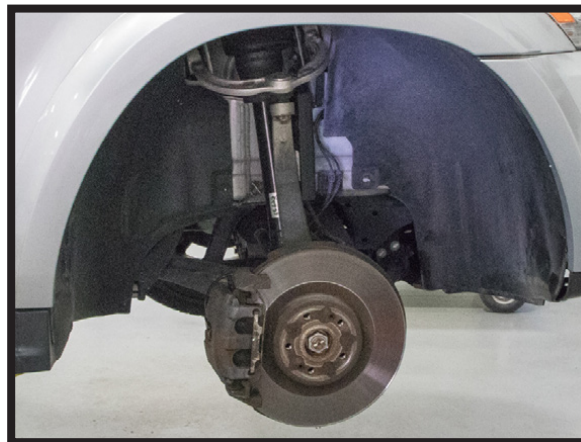

FIGURE 1
3. REMOVE FRONT RIGHT WHEEL. (FIGURE 1)